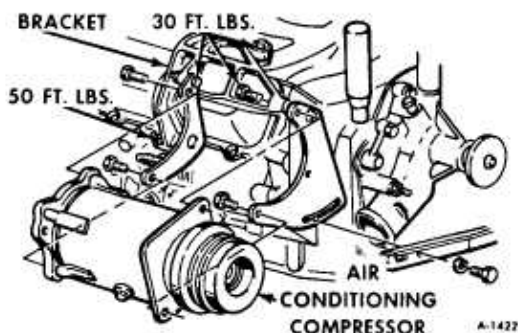

Figure 10-Air Conditioning Compressor Mounting
6. Remove air conditioning compressor bracket (if so equipped). See Figure 10.
10. Install air conditioning bracket (if equipped). See Figure 10.
4. Loosen belts and remove accessories and mounting brackets as necessary. Vehicles with air conditioning, it will be necessary to wire the air conditioning compressor up for support after removing its bracket. See Figure 10.